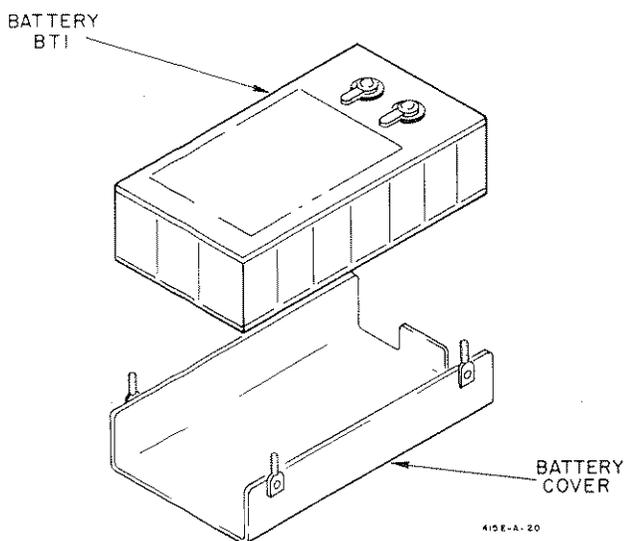

Figure I-1. Battery-Cover Assembly
- c. Refer to Figure I-1 which shows the cover and battery disassembled and install from bottom of instrument into the top deck. Note: The battery should be installed so that the two battery terminals are toward the top and front of the instrument.